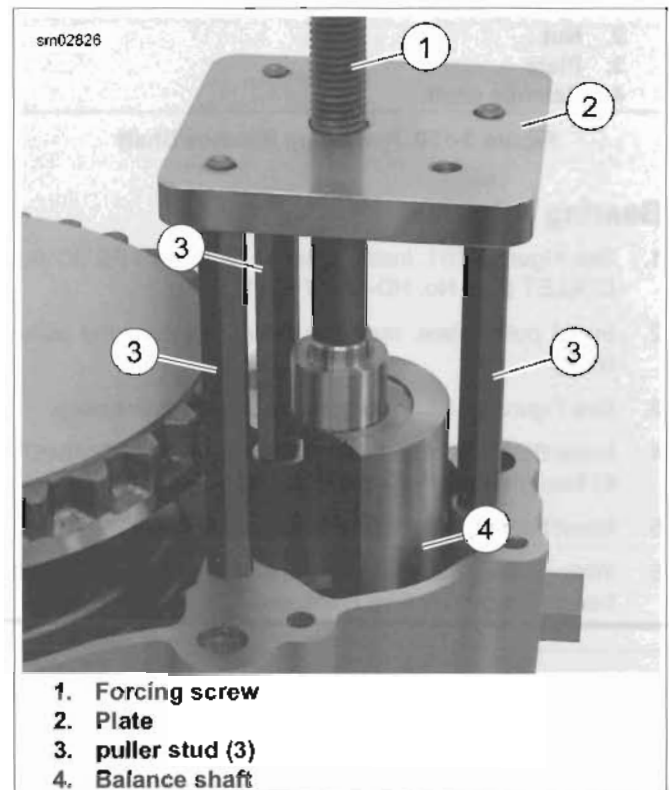

Figure 3-149. Balance Shaft Remover
2. See Figure 3-149. Assemble BALANCER AND BEARING REMOVER (Part No. HD-48457-A).
- a. Sparingly apply clean engine oil to forcing screw (1) for smooth operation and to prolong service life.
- b. Install puller studs (3) in crankcase.
- c. Install plate (2) over puller stud with appropriate side marked "Front" or "Rear" facing up.
- d. Install forcing screw in balance shaft (4).